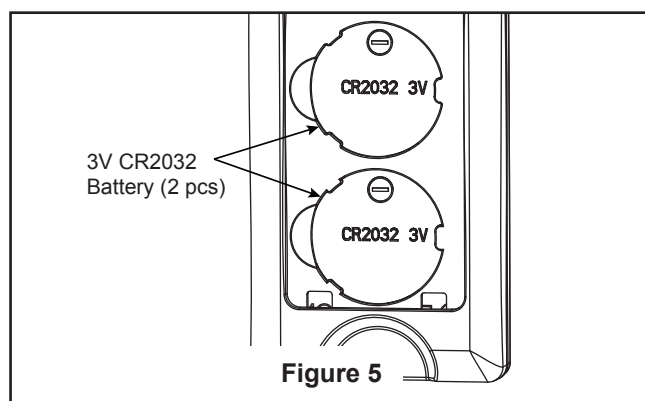

Figure 5
- ☐ 5. Secure the glass to light kit assembly by twisting in a clockwise direction. Twist the glass gradually **until it snaps onto the light kit assembly**. Do not over-tighten. (Figure 5)
- ☐ 5. Install two 3V batteries in hand-held remote transmitter, with fan power off. (Figure 5)